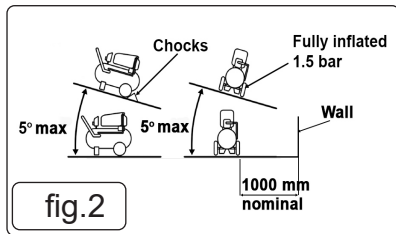

fig.2
- 5.3. The compressor should be operated on a horizontal flat surface, or one that does not exceed 5° either transversely (tyres fully inflated to 1.5bar) or longitudinally with chocks (fig 2), and should be in a position that allows good air circulation around the unit, 1000mm nominal gap.